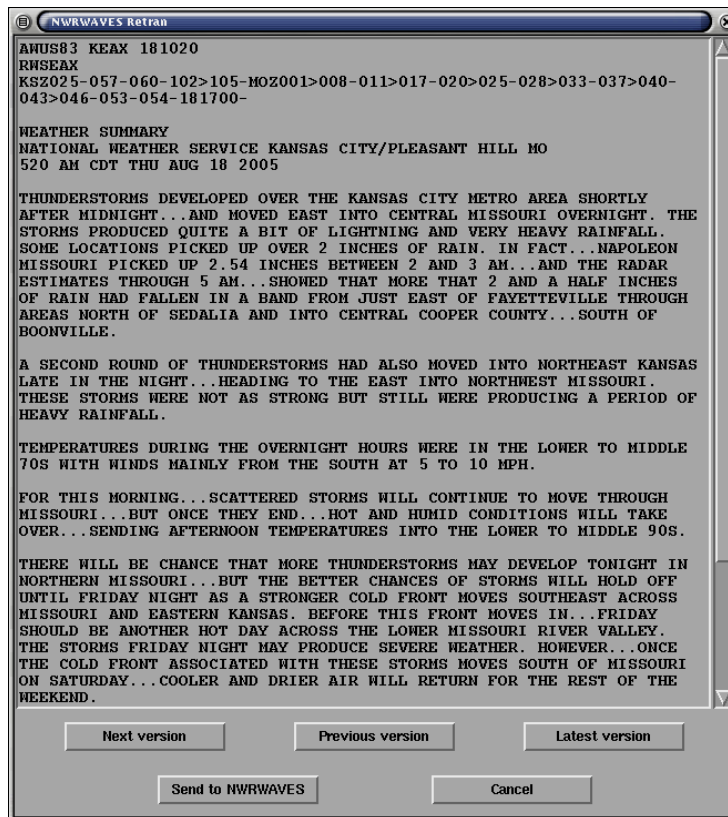

Figure 11 – NWRWAVES Retransmit product GUI interface
- Regenerate a CRS message** – Allows a user to call an AWIPS PIL from the text database and reprocess the product through the NWRWAVES formatter. When this option is selected, the user is prompted to enter an AWIPS product identifier then click 'OK'. The latest version of the product will appear in the 'Regenerate Product' GUI (Figure 11). Sites can toggle between